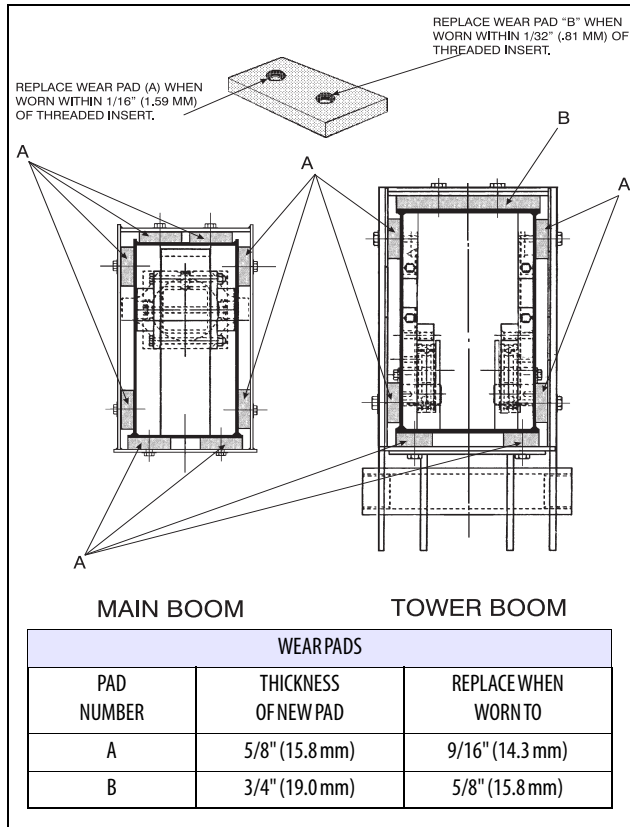

Figure 4-23. Location And Thickness Of Wear Pads
2. Replace wear pads when worn to within 1/16 inch (1.59 mm) and 1/8 inch (3.18 mm) - B, C, D of threaded insert. See Figure 4-23., Location And Thickness Of Wear Pads